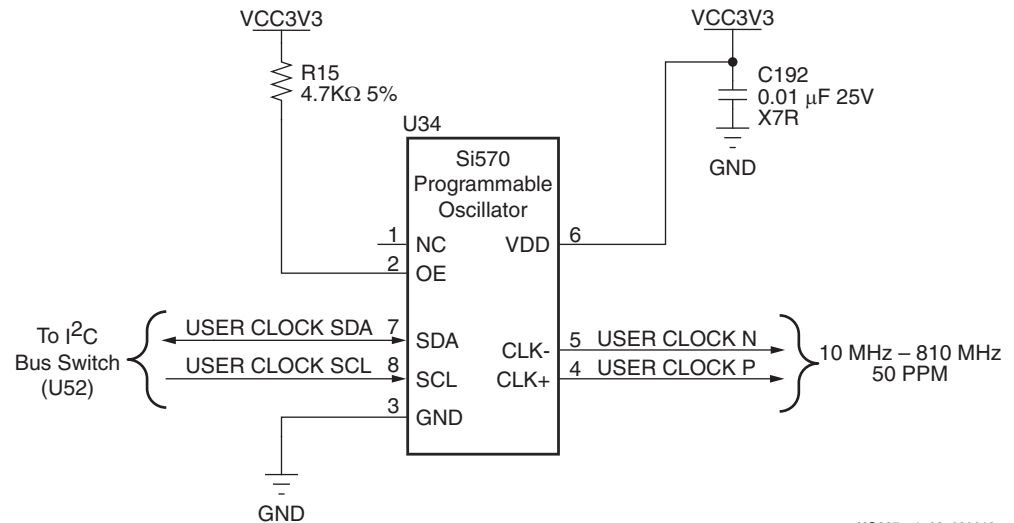

Figure 1-8: User Clock Source
For more details, see the Silicon Labs Si570 data sheet. The user clock circuit is shown in Figure 1-8.
**Note:** In Figure 1-8, USER\_CLOCK\_N and USER\_CLOCK\_P are differential clock signals.